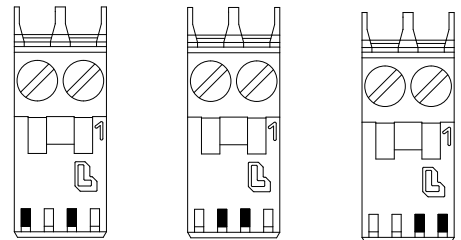

Fig. 2
2. Sensors Connector Kit - Shown in Fig 2.